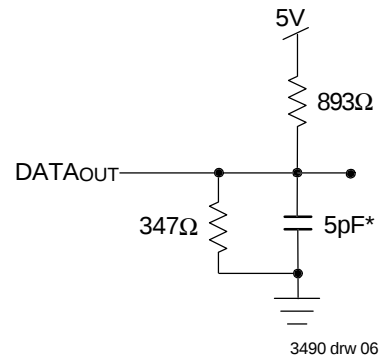

Figure 2. Output Test Load
1. Transition is measured 0mV from Low or High impedance voltage with the Output Test Load (Figure 2).
1. Transition is measured $\pm 20\text{mV}$ from Low or High-impedance voltage with the Output Test Load (Figure 2).
3. Transition is measured 0mV from Low or High-impedance voltage with the Output Test Load (Figure 2).